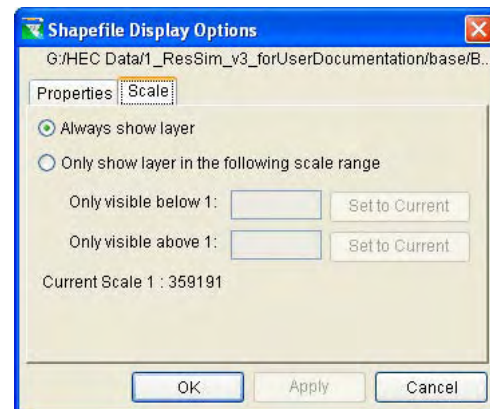

Figure C.6 Shapefile Display Options – Scale Tab
1. Select the **Scale** tab from the Shapefile Display Options dialog (as shown in Figure C.6).